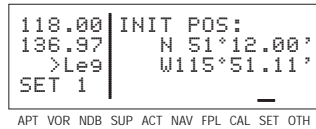
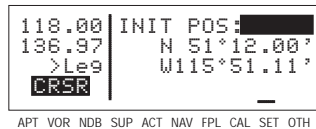

Figure 3-57
Figure 3-58
- If the cursor is not on the screen (figure 3-57), press the **CRSR** button to bring it on the page over the **INIT POS** field (figure 3-58).